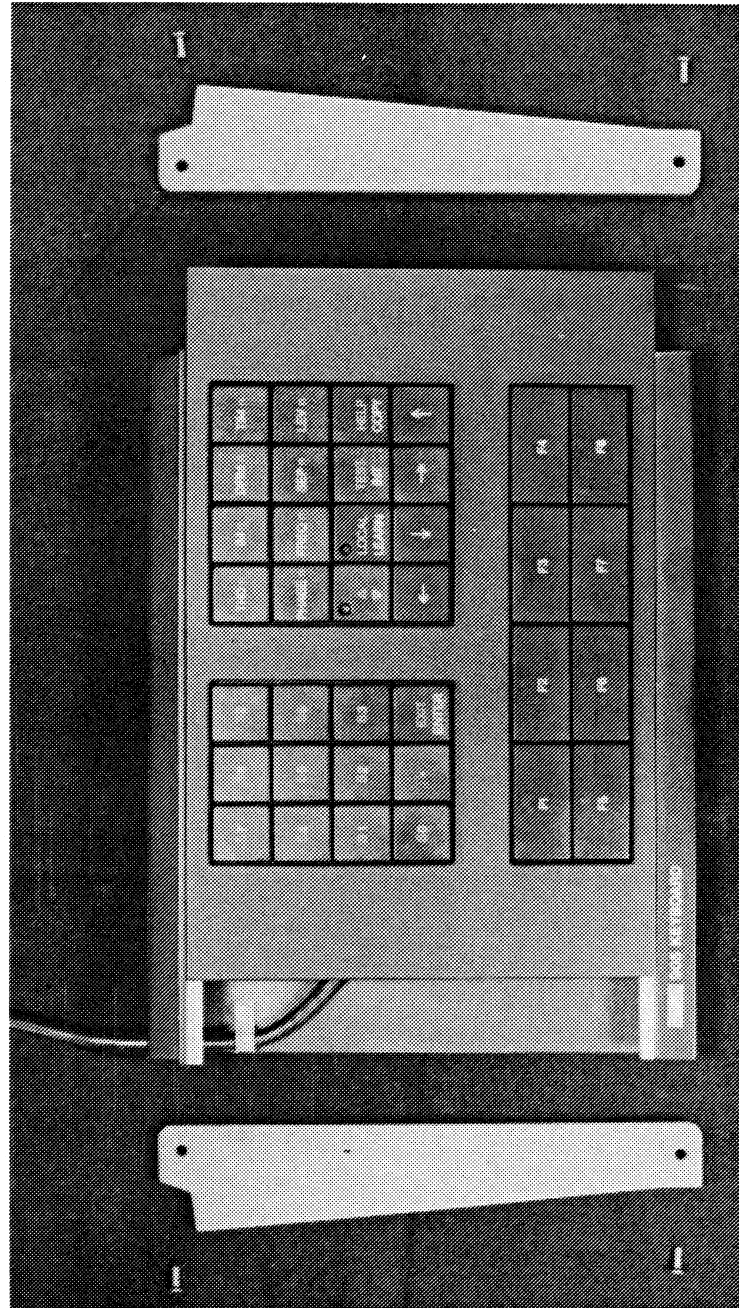

Fig. 4.1 - Dismantling the RE905
- c. Move the top panel a few centimetres to the right, as shown in fig. 4.1.